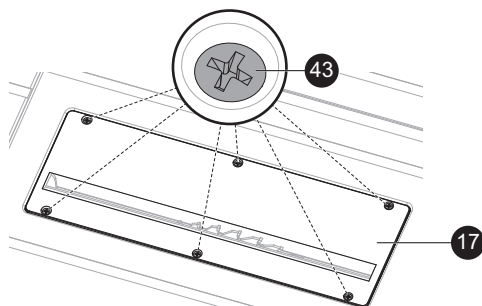

Fig. 3a
- > Loosen the six cross-screws [43] with the screwdriver and remove the table insert [17]. (Fig. 3a)